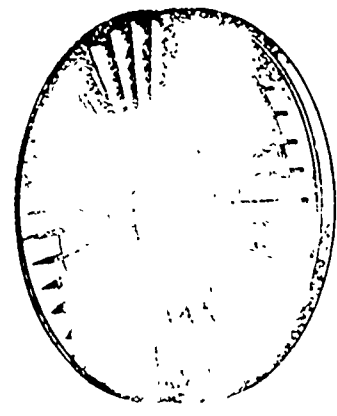

Figure 3. Inlet Guide Vanes.
- (1) Contains _____ hollow struts.
- (2) Supports _____ bearings.
- (3) Anti-iced by _____ stage air.
d. Compressor inlet guide vanes (Figure 3)